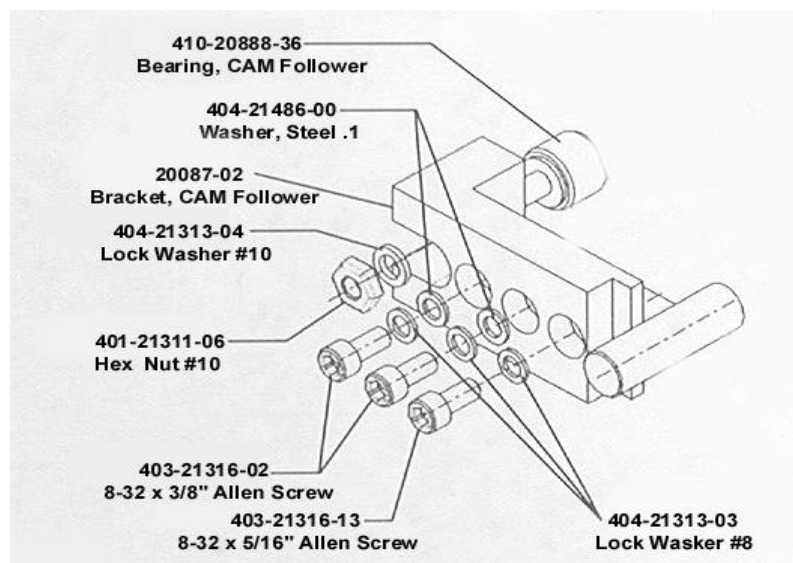

Figure 5-35 Cam Bearing Assembly
3. Remove the 2 qty. 8-32 x 3/8" allen screws and the 1 qty 8-32 x 5/16" allen screws. (Note: the 8-32 x 3/8" screws have 2 #8 lock washers and the 8-32 x 5/16" has 1 #8 lock washer. See figure 5-35).